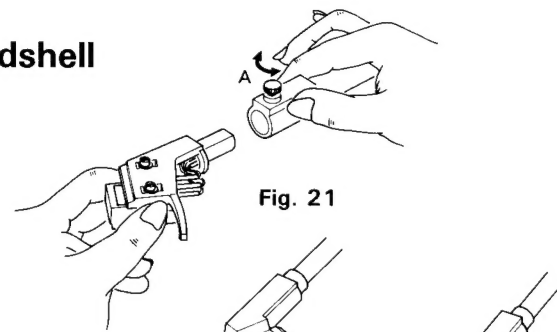

Fig. 21
Turn the connector screw in direction "A" to remove the headshell from the tonearm. Fix it firmly when mounting the headshell. (Fig. 21)
2. Slide the anti-skating knob to align its index mark with the "0" mark. (Fig. 21)